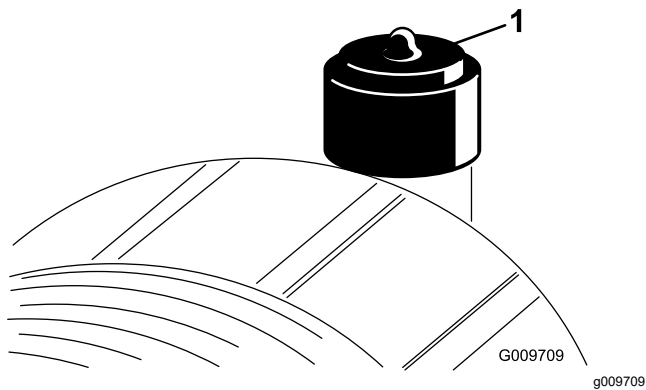

Figure 51
Service the air-cleaner element only when the restriction indicator (Figure 51) requires it. Changing the air cleaner element before it is necessary increases the chance of dirt entering the engine when you remove the element.
2. Reset the restriction indicator (Figure 51) if it shows red.